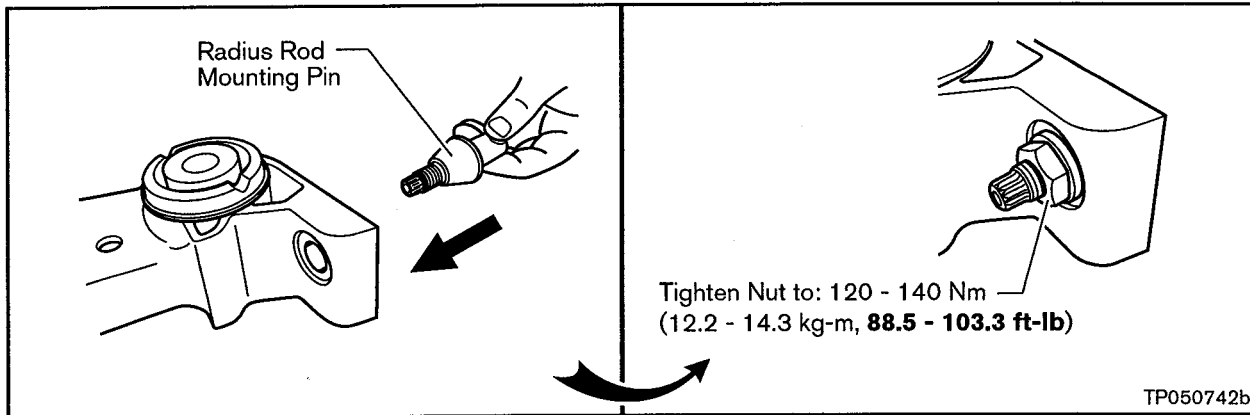

Figure B6
- b. Install the original radius rod mounting pins to the new suspension member and tighten the nuts to: 120 - 140 Nm (12.2 - 14.3 kg-m, **88.5 - 103.3 ft-lb**). See Figure B6.